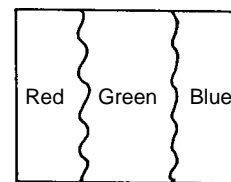

Fig. 1-4
10. Adjust the Purity knob so that green comes to the center of screen as shown in Fig. 1-4.